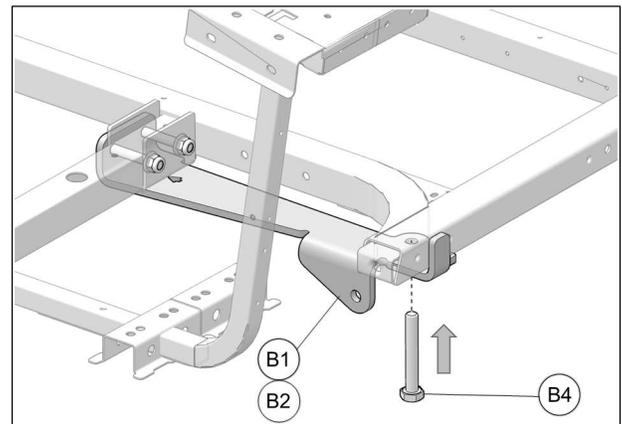

Fig. 9
7. From the bottom, insert M10x70mm bolt (**B4**) in pre-existing hole present in vehicle frame. See Fig. 9